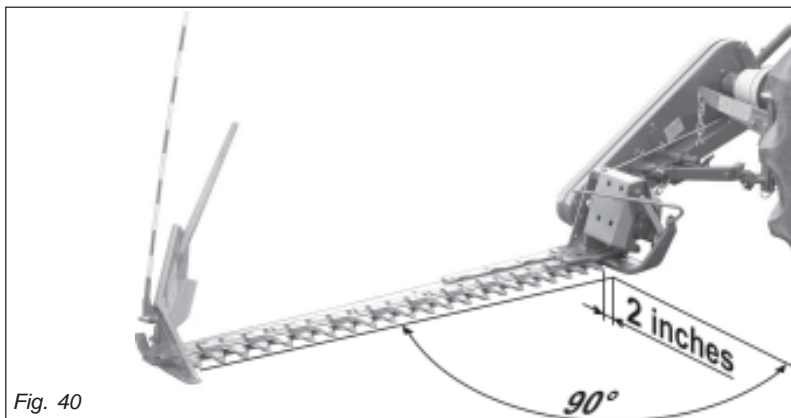

Fig. 40
- Fit the sickle bar by adjusting the tractor tie-rods so that, when the sickle bar attachment is fitted to the three points on the tractor, the external tip of the cutting arm is approximately 2 inches forward with respect to the arm base (Fig. 40).